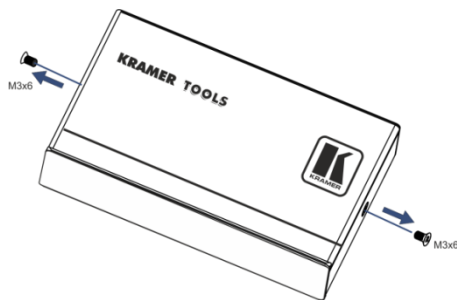

Figure 3: Removing the Side Screws
1. Remove the two M3x8 side screws (see Figure 3).